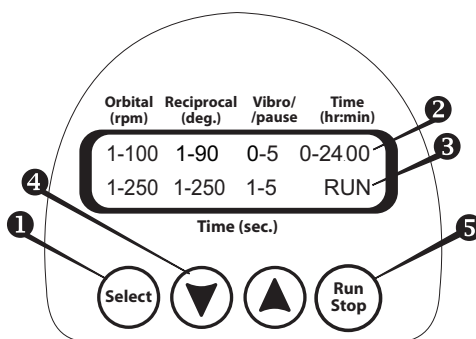

Fig.1 Control panel
- 4.4. Press the **Run/Stop** key (Fig.1/⑤) to start the program.
- 4.5. The platform motion will begin and the corresponding indication (RUN (Fig.1/③) and the changing time values) will be shown on the display.
- 4.6. If the operation time is not set and the timer indicator (Fig.1/②) shows 0:00, pressing the **Run\Stop** key will cause continuous operation of the rotator until the **Run\Stop** key is pressed again.
- 5.1. Press the **Select** key (Fig.1/1) to choose the parameter to change (pressing the key down for longer time will increase the increment). The active parameter is flashing.
- 5.2. Use the **▲** and **▼** keys (Fig.1/2) to set the necessary value (when the key is pressed down for longer time the increment becomes bigger).